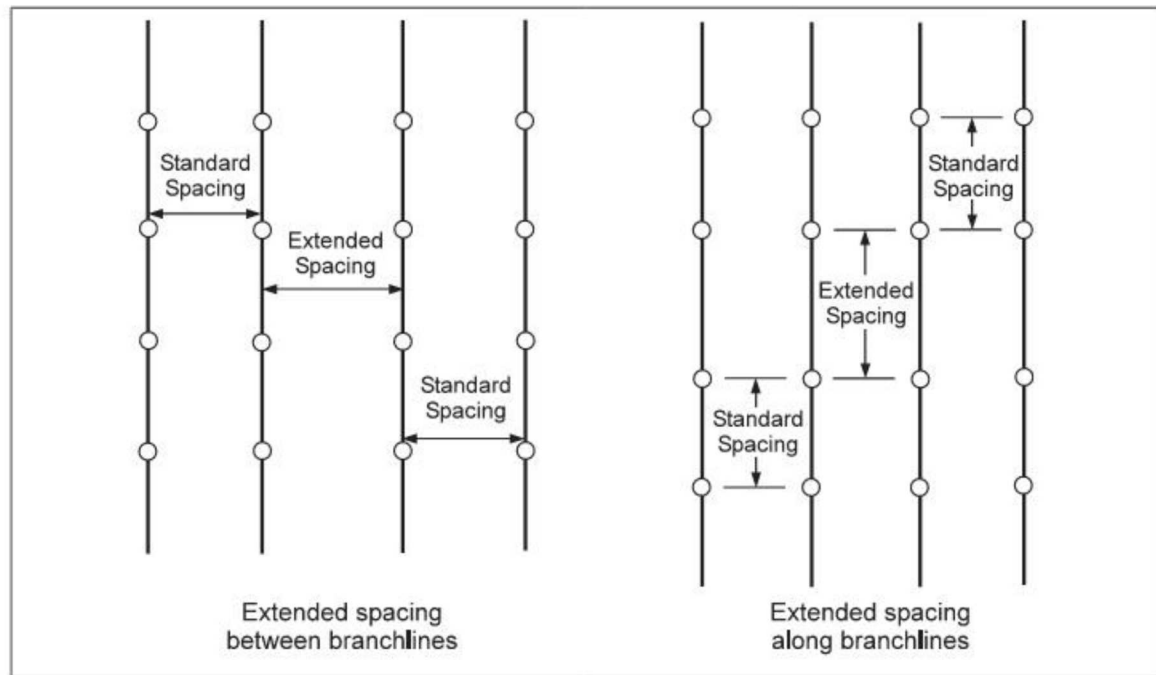

Fig. 2.5.4.5.4.3. Allowable extension of maximum ceiling sprinkler spacing to avoid obstruction to sprinkler discharge
2.5.4.5.4.3 If objects cannot be in accordance with Table 2.5.4.5.4.1 with the sprinklers installed in accordance with Table 2.5.4.3.1.1, the linear spacing of the sprinkler can be extended a maximum 1 ft (0.3 m) beyond the maximum linear spacing indicated in Table 2.5.4.3.1.1, as demonstrated in Figure 2.5.4.5.4.3, if that will allow the sprinkler to avoid unacceptable obstruction to its discharge. Note that the extended spacing is permitted multiple times, but each time must be adjacent to spacing that is in accordance with Table 2.5.4.5.4.1.
2.5.4.5.5.1 For flat, solid, individual objects over 2 ft (0.6 m) wide, install supplemental sprinklers under the object in accordance with Figure 2.5.4.5.5.1.